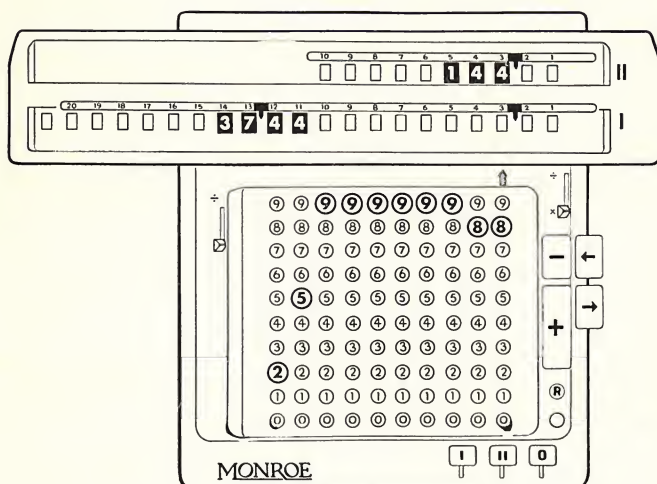

Figure 28
Step 5—Move the carriage one place to the left and hold plus bar depressed for four revolutions. The right lower dials are now cleared. The Monroe, as shown in Figure 28, reads: upper dials 144, number of dozens in 1728 pieces; left lower dials at 12th decimal place, the result, 3744.